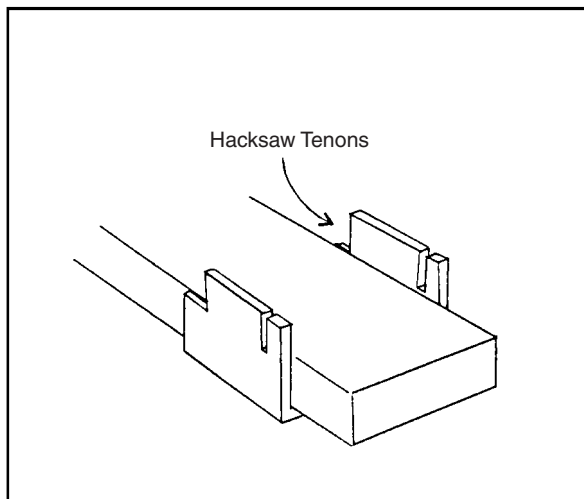

Figure 23.5 After the bolt slides freely, cut out the tenons.
5. Place the bolt guide over the bolt and clamp in the vise. Use a hacksaw to cut out the tenons. The saw cuts should stop well clear of the bolt. Use a file to refine the shape of the tenons. The shoulders of the tenons should be $\frac{1}{32}$ inch above the bolt (Fig. 23.5).